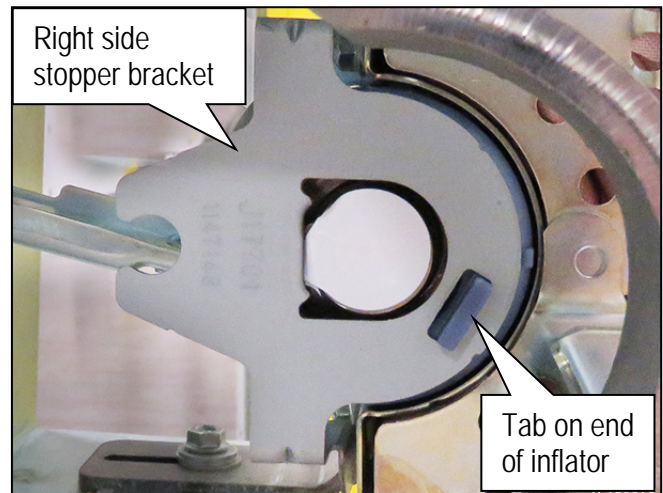

Figure 31
41. On the right side, make sure the tab on the end of the inflator fits in the stopper bracket as shown in Figure 31.